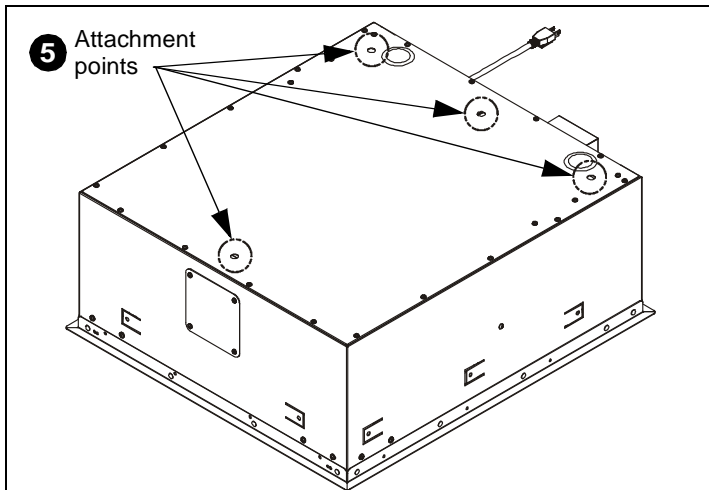

Figure 2
5. Attach supports (not provided) using a lag bolt or nut and bolt through the top of lift (at attachment points). (See Figure 2)